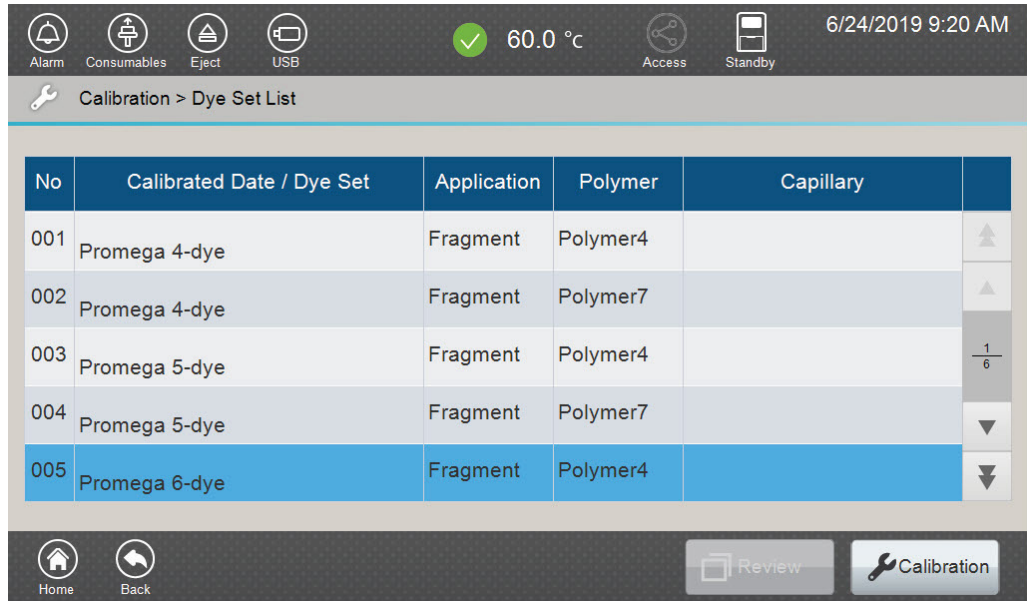
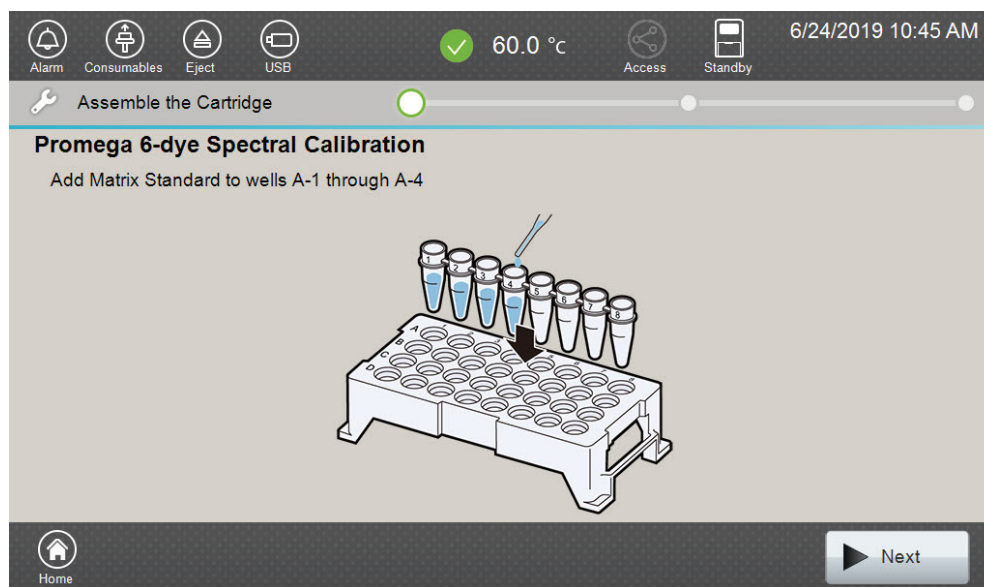

Figure 20. 'Dye Set List' screen.
Figure 21. 'Assemble the Cartridge' screen.
- Use the scroll arrows on the right-hand side of the 'Dye Set List' screen (Figure 20) to find the correct Dye Set/Application Type/Polymer combination from the displayed list. To perform a spectral calibration using the VersaPlex® 6C Matrix Standard with Polymer4, select **Promega 6-dye** with "Fragment" and "Polymer4" as application and polymer types, respectively, then select **Calibration**. The 'Assemble the Cartridge' screen will open (Figure 21).
5. Select **Next** on the 'Assemble the Cartridge' screen (Figure 21). A message window will open indicating that the autosampler is moving and telling the user to not open the door. In addition, the status indicator flashes green while the autosampler is moving. After autosampler movement is complete, the message window closes and the status indicator returns to a steady green.